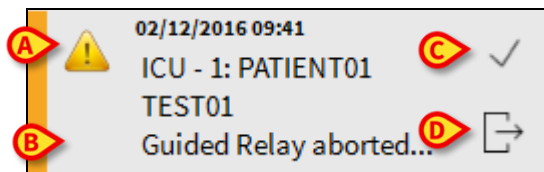

Fig 13
In the message box (Fig 13), the following information is displayed:
- An icon characterizing the message type (Warning, Alarm, Info - Fig 13 A)
- An “Ack” button. Click the button to acknowledge the corresponding notification (Fig 13 C)
- A “Callback” button. Click the button to access the patient station on which the notification occurred (Fig 13 D)